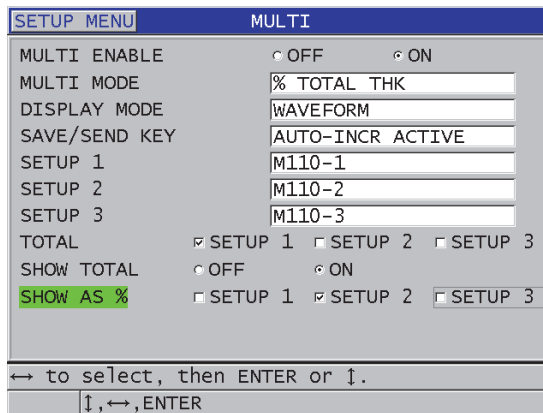

Figure 7-10 Setting multi-measurement parameters in the % total thickness mode
2. In the **MULTI** screen (Figure 7-10 on page 120):